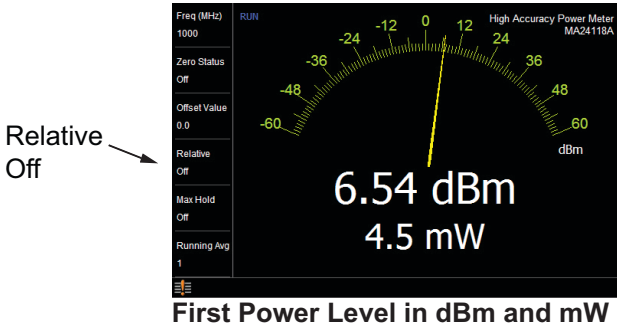

Figure 9-4. Relative Power Example
2. Press the **Relative** submenu key. Note that the absolute value of the measurement at the time the **Relative** key is pressed is shown in yellow below the numerical display (see Figure 9-4 on page 9-8).
3. Any change in power will now be displayed relative to the set reference level. Refer to the bottom image in Figure 9-4 on page 9-8.